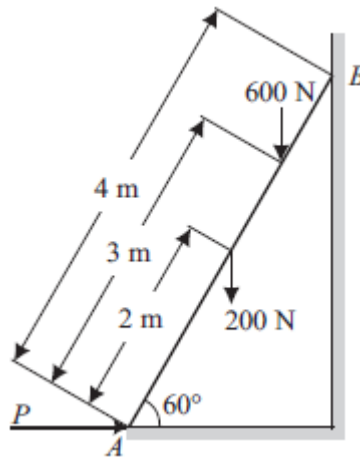

Fig.10
9. A ladder of length 4 m, weighing 200 N is placed against a vertical wall as shown in Fig.10. The coefficient of friction between the wall and the ladder is 0.2 and that between floor and the ladder is 0.3. The ladder, in addition to its own weight, has to support a man weighing 600 N at a distance of 3 m from A. Calculate the minimum horizontal force to be applied at A to prevent slipping.